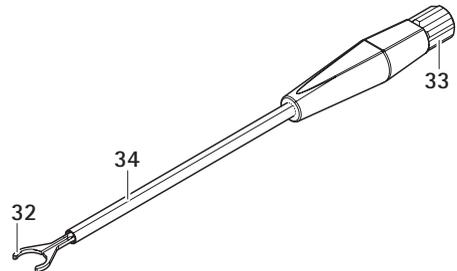

Fig. 6 Disassembling revision instrument for PE inlay
- ▶ Turn the adjustment knob **33** counterclockwise and gently pull on the jaw piece **32** until the jaw part comes out, see Fig. 6.